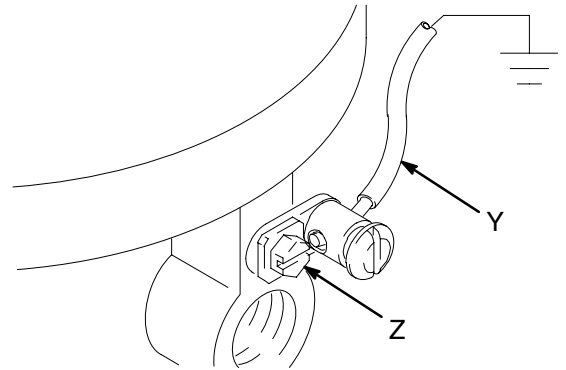

Fig. 2
Pump Model 246611: Remove the ground screw (Z) and insert through the eye of the ring terminal at end of ground wire (Y). Fasten the ground screw back onto the pump and tighten securely. Connect the other end of the ground wire to a true earth ground. See Fig. 2. *To order a ground wire and clamp, order Part No. 222011.*